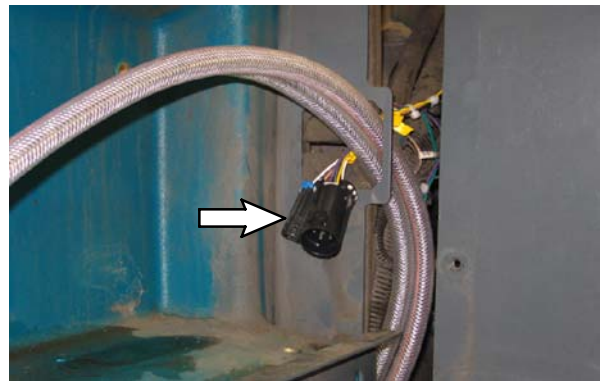

FIG. 4
21. Route *ec-H20* harness *ec-H20* assembly leads into the the operator compartment. Refer to Fig. 4.